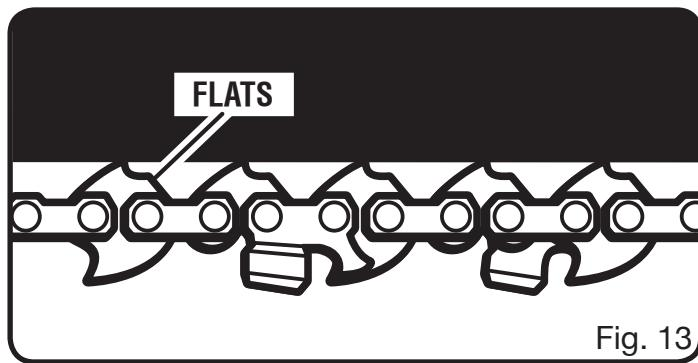

Fig. 13
*See Figures 13 - 14.*
- Chain must be re-tensioned whenever the flats on the drive links hang out of the bar groove as shown in fig. 13.